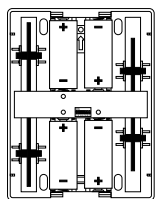

Figure 3
3. Install 4 alkaline "C" batteries in chime. Make sure batteries are oriented with proper polarity as shown in Figure 3.